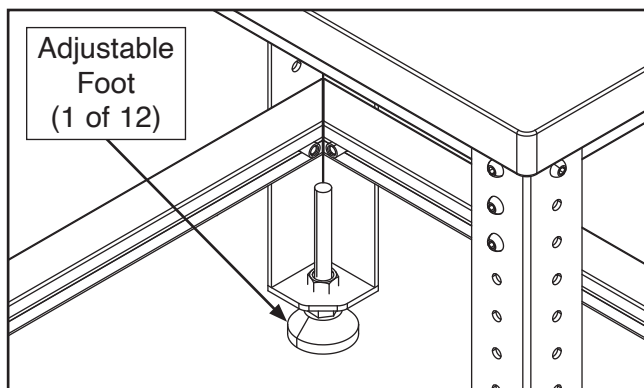

Figure 9. Location of adjustable feet.
10. Loosen or tighten adjustable feet (see **Figure 9**) to adjust each stand to desired height.
- If workstation *is not* level, tighten or loosen adjustable feet (see **Figure 9**) as needed until workstation is level, then tighten fasteners from **Step 11**.